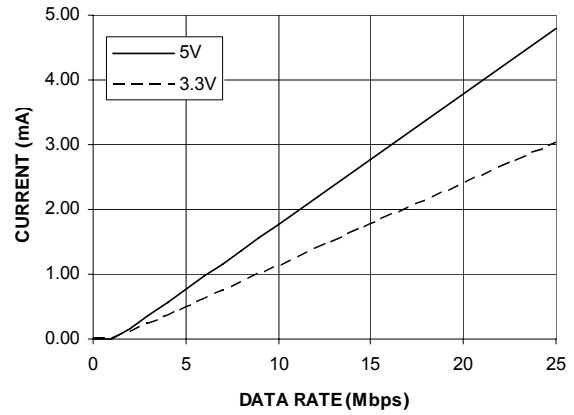
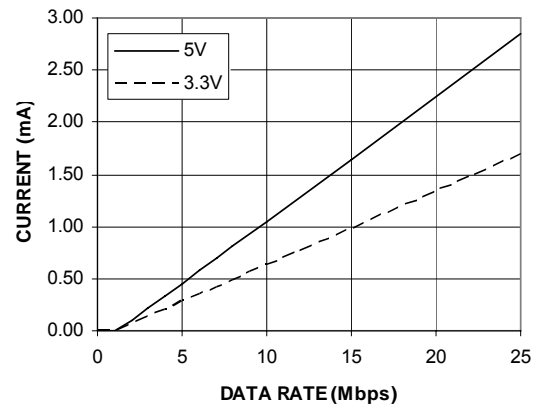

Figure 15. Typical  $I_{ISO(D)}$  Dynamic Supply Current per Input
Figure 16. Typical  $I_{ISO(D)}$  Dynamic Supply Current per Output (15 pF Output Load)
Both Dynamic I/O current is consumed only when operating at channel at speeds higher than the rate  $f_r$ . Since each channel will have a dynamic current that is determined by its data rate, Figure 15 shows the current for a channel in the forward direction, which means that the input on the primary side of the part. Figure 16 shows the current for a channel in the reverse
- Ichn is the current drawn by a single channel determined from Figure 15 or Figure 16 depending on channel direction.
- IISO(D)n is the dynamic load current drawn from VISO by an input or output channel, as shown in Figure 15 and Figure 16. Data is presented assuming a typical 15pF load